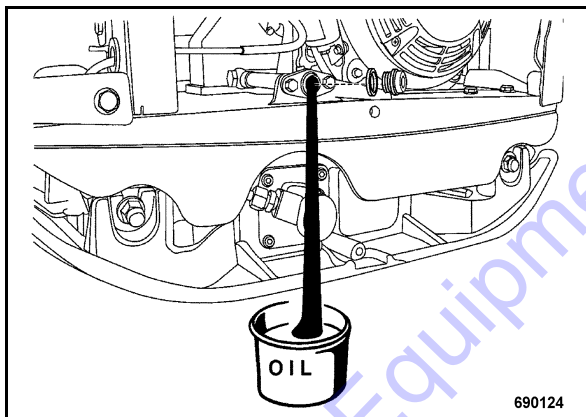

Fig. 43
- Unscrew the oil drain plug and catch running out old oil (Fig. 43).